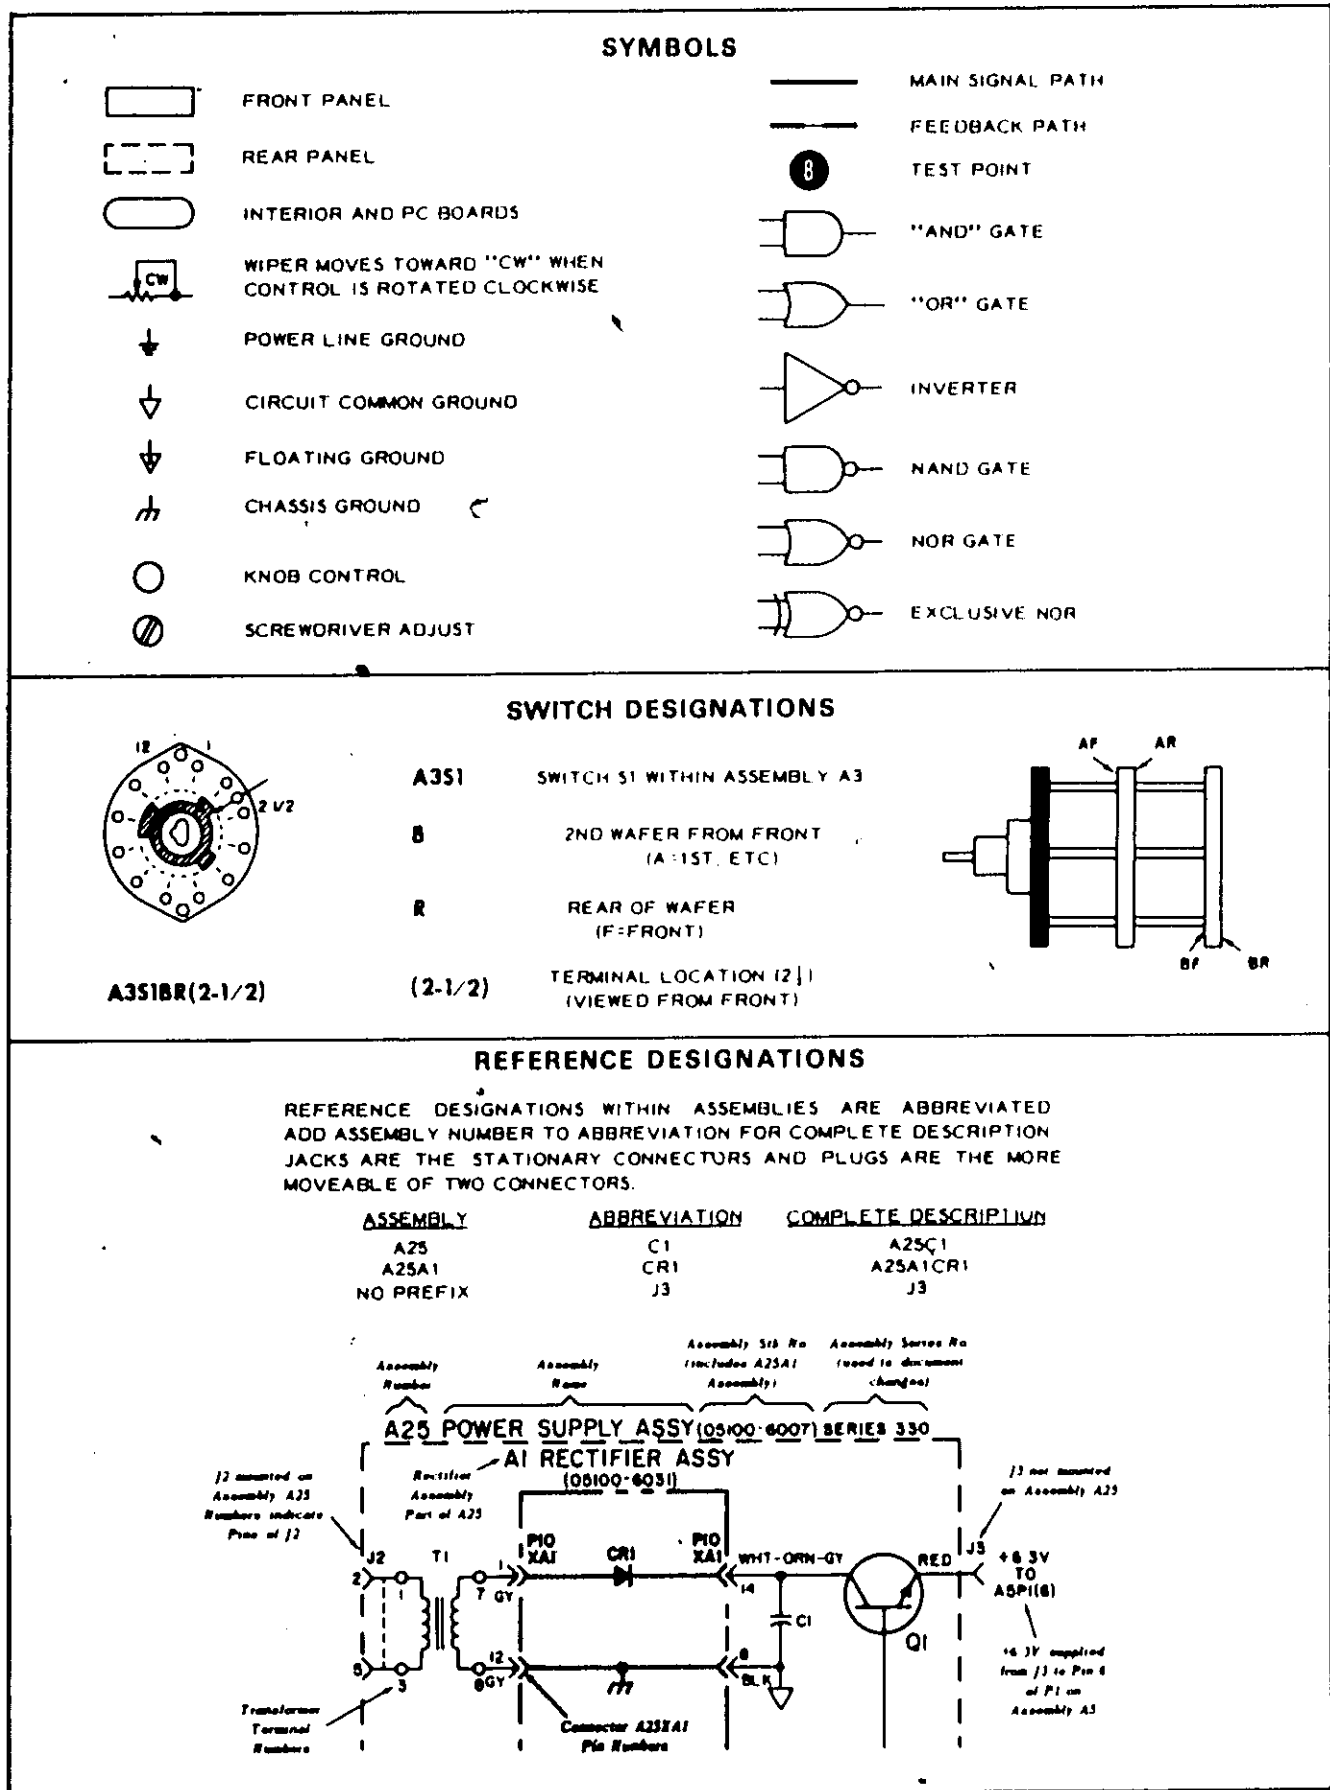

Figure 9-1. Schematic Diagram Notes
- a. Schematic Diagram Notes, Figure 9-1.